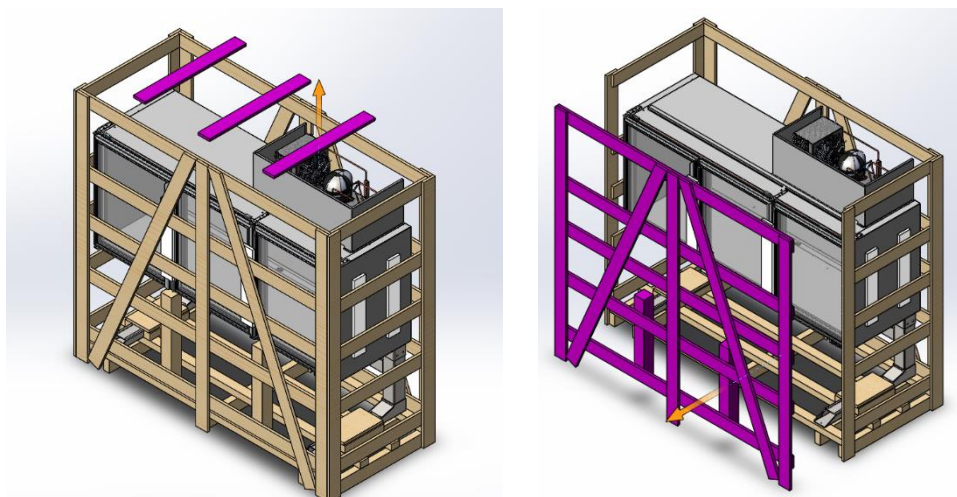

Fig. 6.1.1. a) the upper part of the cladding; b) longitudinal framing
1. Disassemble the bars that are on top (Fig. 6.1.1, a)
2. Disassemble longitudinal gratings (Fig. 6.1.1, b)